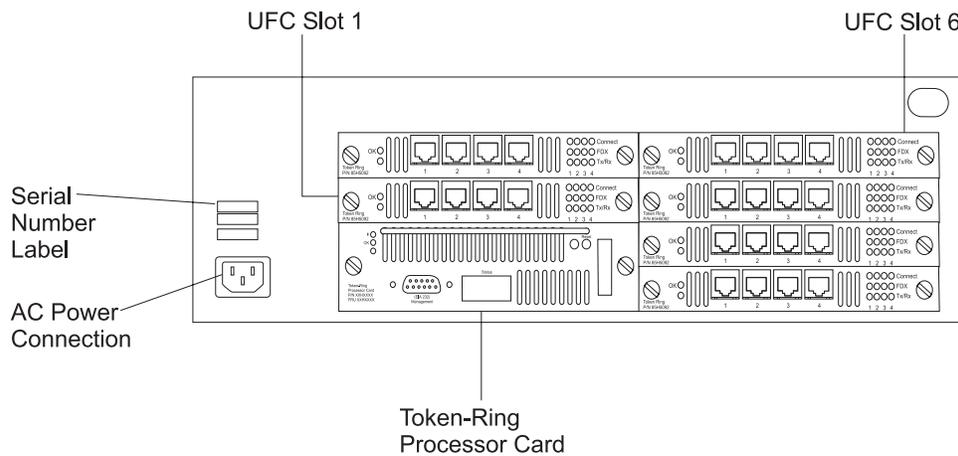
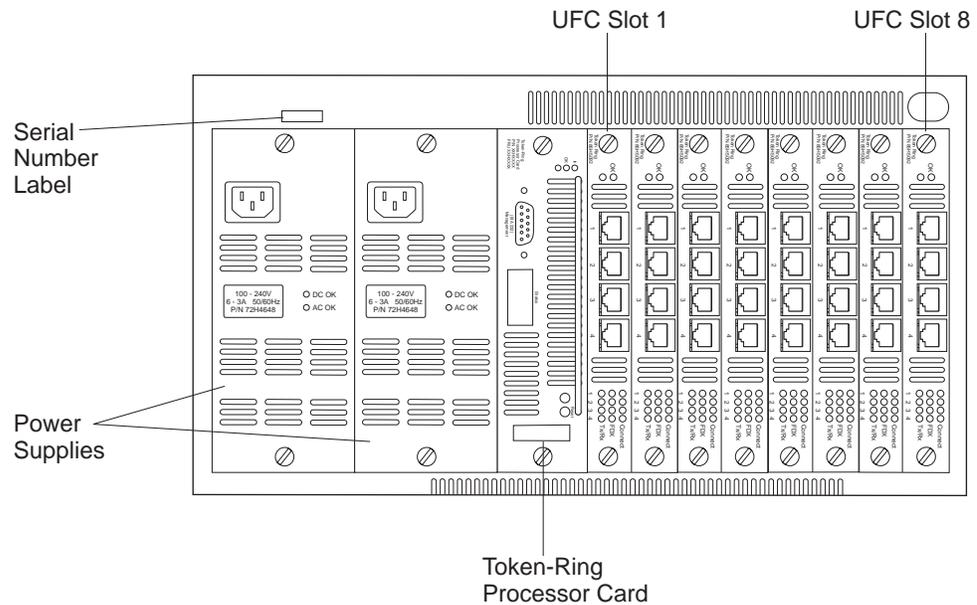

Figure 1-2. The 8270-600 Front View
Figure 1-3. The 8270-800 Front View
The front views of the 8270-600 and 8270-800 are illustrated in Figure 1-2 and Figure 1-3 on page 1-3 respectively. Following the illustrations is a description of each of the plug-in modules and UFCs. The connectors, indicators, and switches for each module are also discussed.
**8270-800 Power Supply:** The 8270-800 provides two slots for power supplies. These are the two leftmost slots in the chassis. (see Figure 1-3). At least one power supply must be installed. The 8270-800 is shipped with a single power supply installed in the right slot. The left slot is available for installation of an optional, redundant power supply.
The 8270 contains UFC slots (see Figure 1-2 on page 1-2 or Figure 1-3 on page 1-3) that accommodate optional, field-installable UFCs to provide network connections. Currently available UFCs provide the following types of connections: